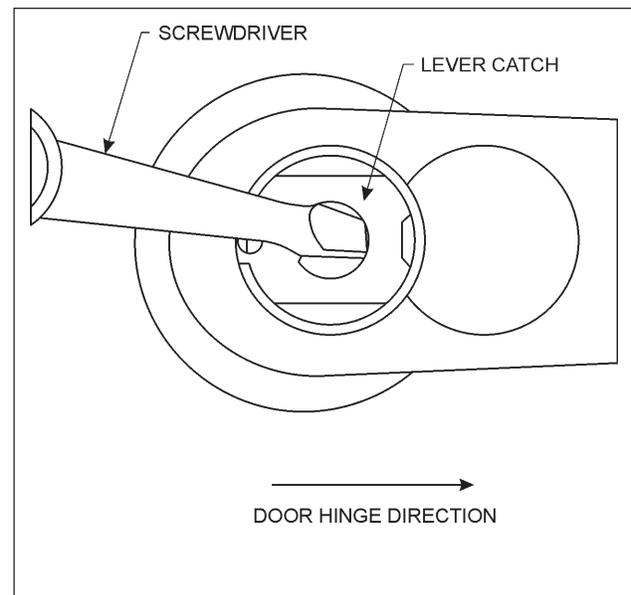

Figure 22
3. Refer to Figure 22. With the screwdriver inside the lever, push the inside of the lever catch toward the door hinge and push on the lever so that it moves to the next catch position. This second catch point ensures that the end of the lever is less than 1/2" (13mm) away from the door as required by many building codes.